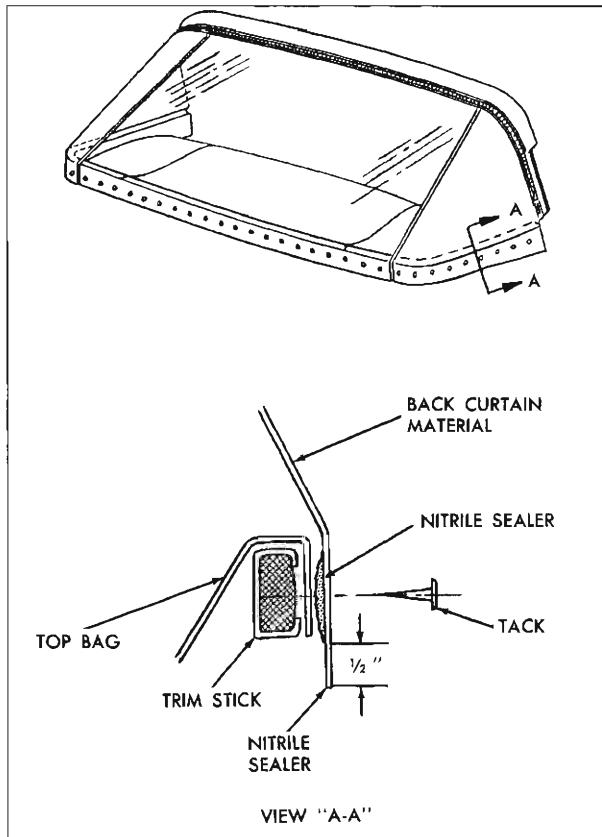
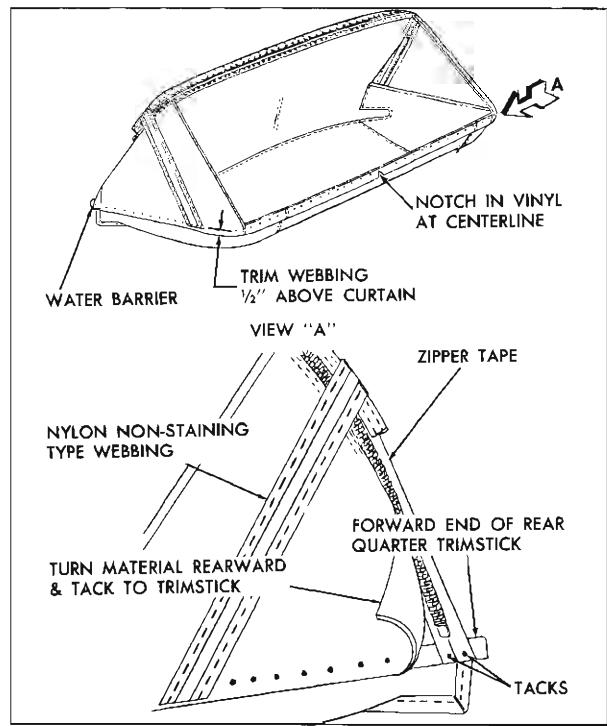

Fig. 21-41 Back Curtain Sealing
Fig. 21-42 Back Curtain Installation
6. Place back curtain window assembly on clean covered work bench with exterior (vinyl) surface of back window valance facing down. (Large pliable back window must be handled carefully to avoid possible damage due to scratches, abrasions, etc.) Apply bead of convertible top sealer (nitrile) along lower edge of back curtain material in area which will be tacked to rear and rear quarter trim stick. (View "A-A" in Fig. 21-41).
7. Apply bead of convertible top sealer (nitrile) along lower selvage edge of back curtain material (Fig. 21-41).
NOTE: Notch in back curtain vinyl at lower edge indicates centerline of back curtain assembly (Fig. 21-42). In addition on all Pontiac and Tempest styles, back curtain lower edge should extend $\frac{1}{2}$ " below lower edge of trim sticks as shown in view "A-A", Fig. 21-41.
arrow in Fig. 21-42).
rear quarter trim stick, turning forward edge of material rearward to form a water barrier (Fig. 21-42).
rear trim stick. New webbing may be cut from a piece of non-staining type webbing 2" x 19". Excess webbing should be trimmed off at rear trim stick, 1/2" above back curtain lower edge (see Fig. 21-42).